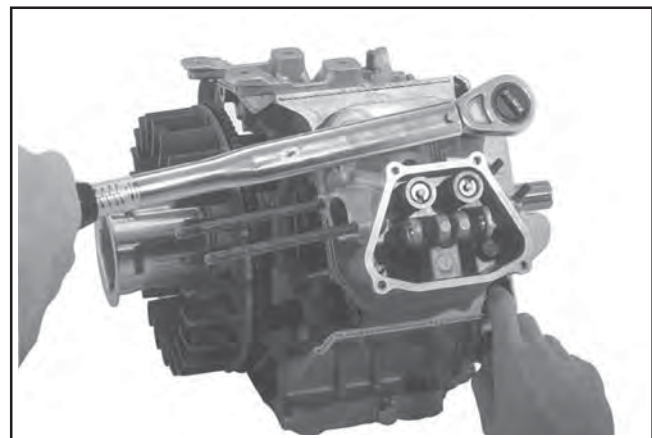

Figure 11-66. Tightening Cylinder Head Screws.
5. Install the cylinder head and start the four hex flange screws. Torque the screws in several increments, using the sequence shown (See Figures 11-66 and 11-67) to: